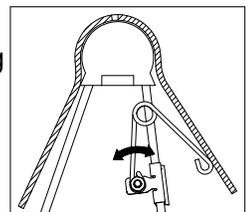

FIGURE E2: Cutaway view of driver side pivot arm and saddle.
2. Adjust the resting angle of your coupler plate by rotating the spring on the driver side pivot arm. Pulling the top of the spring away from the cab will increase the angle of the coupler plate. Set the angle of the coupler so that head will tilt away from the cab when coupling, see Figure E2. Tighten the 1/4" nut once the spring's orientation is set.